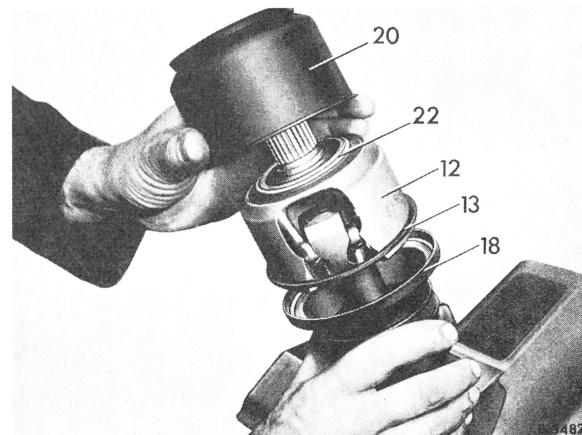

Fig. 10
11 Place new sealing rings on universal spider (12) and attach new protective sleeve (20) (Fig. 10).